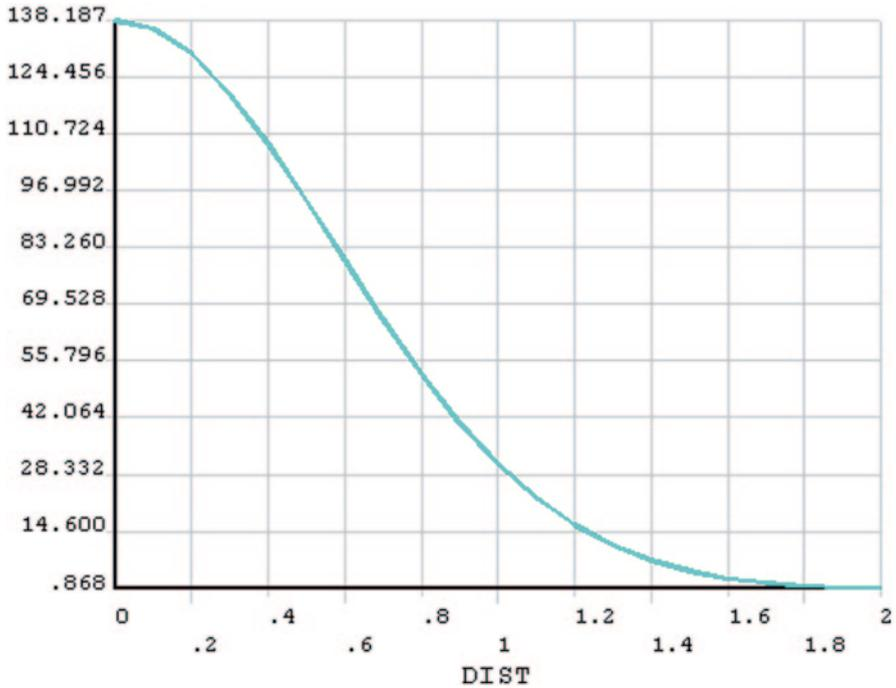

Fig. 5.33 Flux variation line plot along the path Y025 at $t=5$
- Observe the flux variation along the path **y025** as it appears in the *Graphics Window*, as shown in Fig. 5.33.